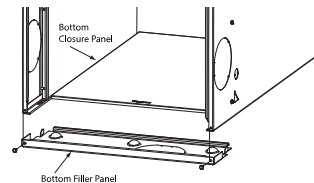

Fig. 9 – Removing Bottom Closure Panel
1. Tilt or raise furnace and remove two screws holding bottom filler panel (see Fig. 9).